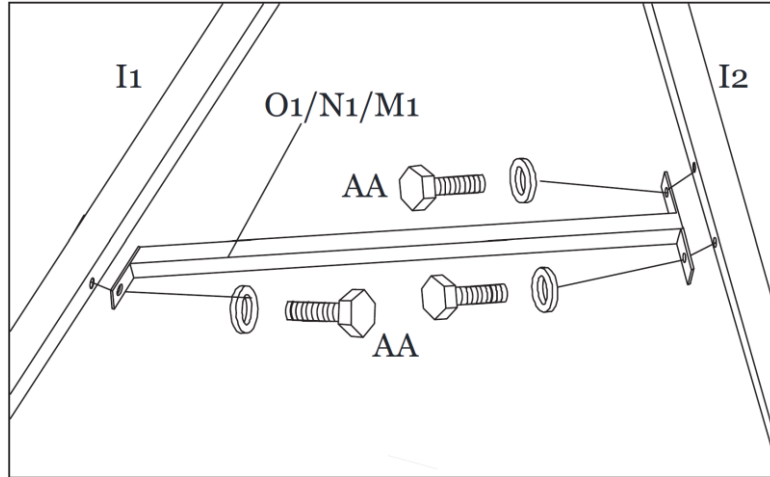

Figure 16-1
Step 16A: Attach the Support Bars (O1, N1, and M1) to the Main Roof Corner Support (I1) and Main Roof Vertical Center Support (I2) using Bolts/Washers (AA). See Figure 16-1 and 16-4.